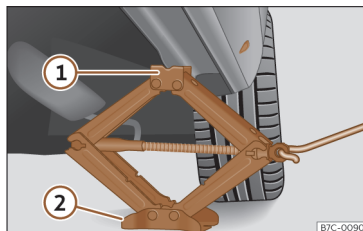

Fig. 202 Crossbar: mounting the jack on the vehicle.
- Turn the jack crank handle, located below the strut support point, to raise it until the tab ① >>> Fig. 202 is below the housing that is provided.
- Align the jack so that the tab ① "grips" onto the housing provided on the cross member and the mobile base ② is resting on the ground. The base plate ② should fall vertically with respect to the support point ①.